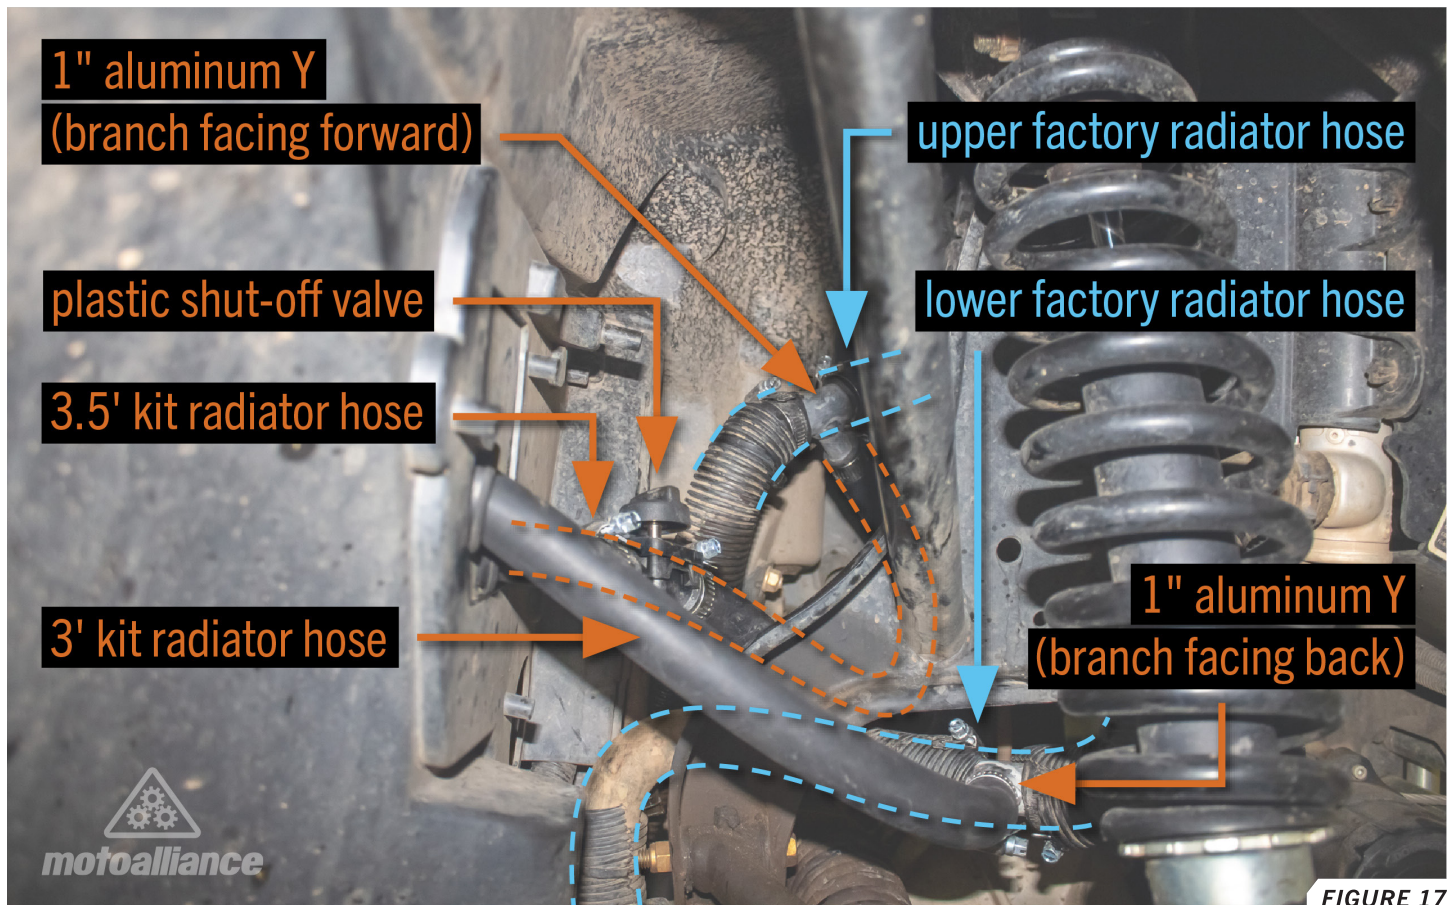

FIGURE 17
57. Run the 3.5' kit radiator hose to the upper factory radiator hose and the 3' kit radiator hose to the lower factory radiator hose. **FIGURE 17**
58. Find a flat place in the upper radiator line and cut the hose. Insert the 1" Aluminum Y with the branch facing the front of the machine. Secure using #16 hose clamps. **FIGURE 17**
63. Cut the line and insert the plastic shut-off valve. Secure using two #10 hose clamps. **FIGURE 17**